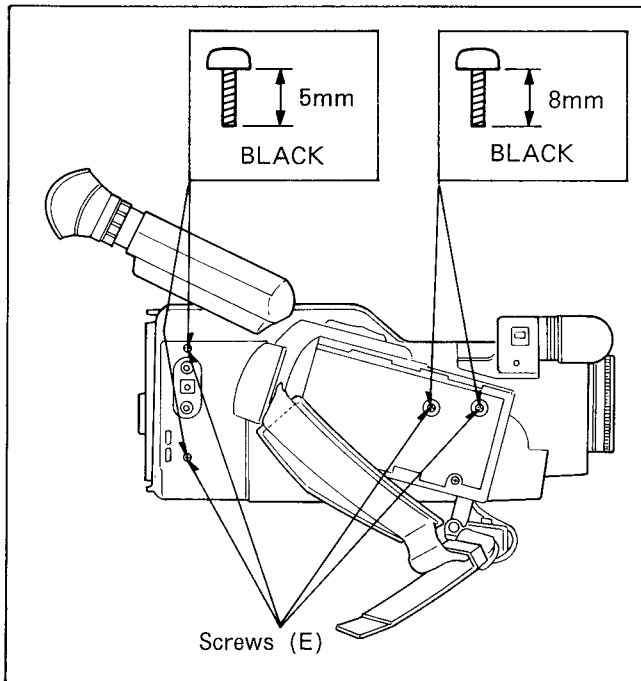
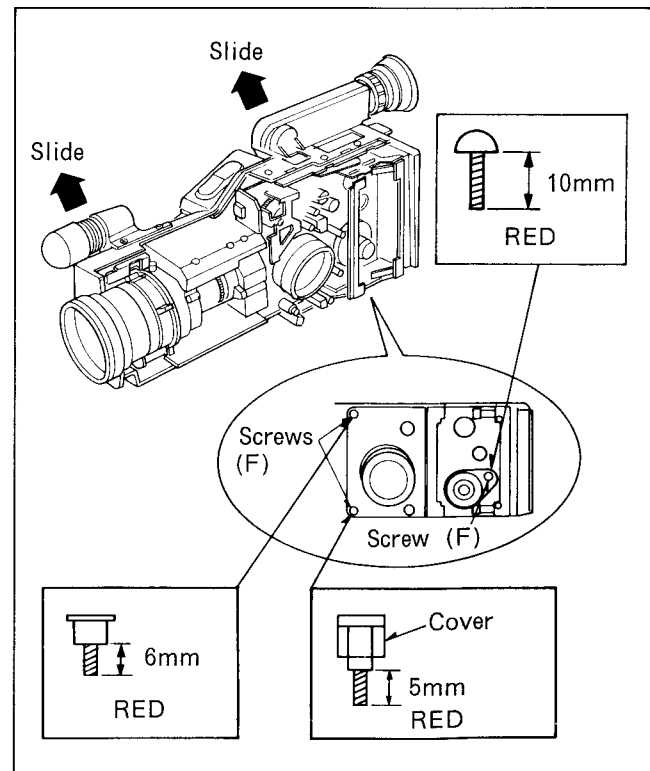

Fig. D4
Fig. D6
- (1) Remove 4 screw (E) as shown in Fig. D4 and 3 screws (F) as shown in Fig. D6.